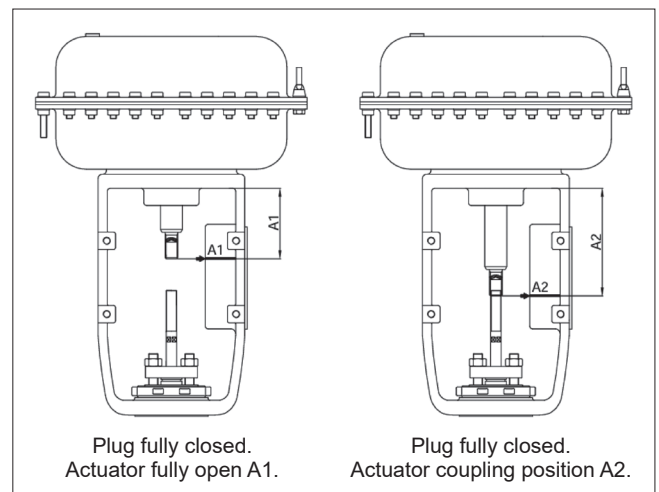

Fig. 13 How to clamp for general and high temp balanced trim valve
<air to open, stem retract> actuator (Fig. 13)
B. Actuator removal for Direct <air to close, stem extend > actuator (Fig. 13)